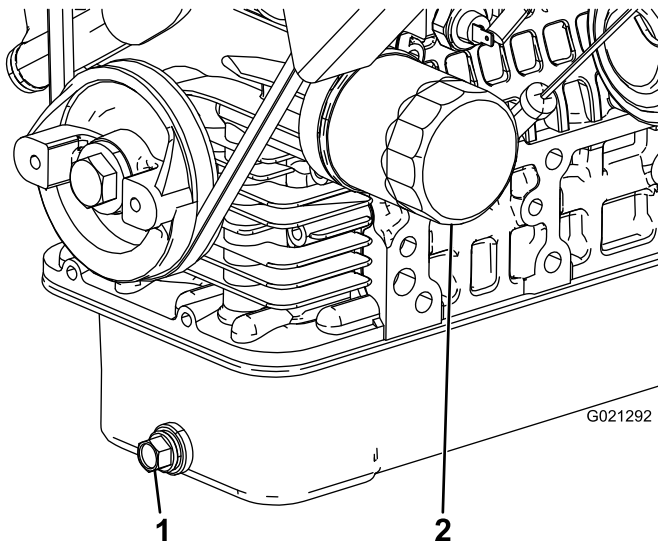

Figure 46
2. Remove the drain plug and let the oil flow into a drain pan (Figure 46).
4. Remove the oil filter (Figure 46).